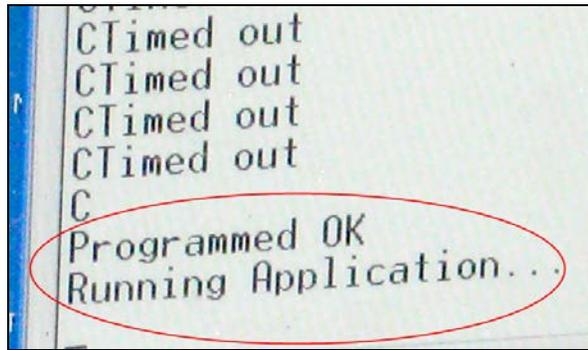

Fig.26
- When completed, the download screen will display a "Programmed OK" message; this will complete the download procedure (Fig.26).